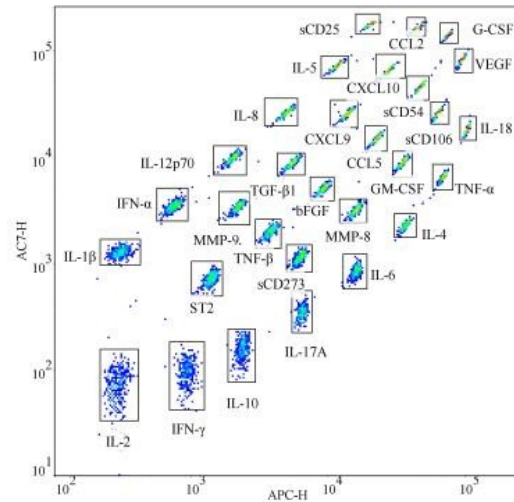

Figure 2. APC-H vs APC-Cy7-H scatter plot showing individual bead populations, each gated to a specific analyte.
- 3) Create an APC-H / APC-Cy7-H scatter plot. From the P1-gated bead population, identify individual bead populations and gate each cytokine-specific bead population using rectangular gates (Figure 2).